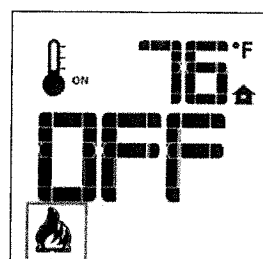

Figure 59. Burner OFF.
- Press the ON/OFF Key. The display will show only the room temperature and icon. At the same time, the Receiver will deactivate the call for heat and the burner will shut down. Fig. 59. A single "beep" from the Receiver will confirm reception of the command.